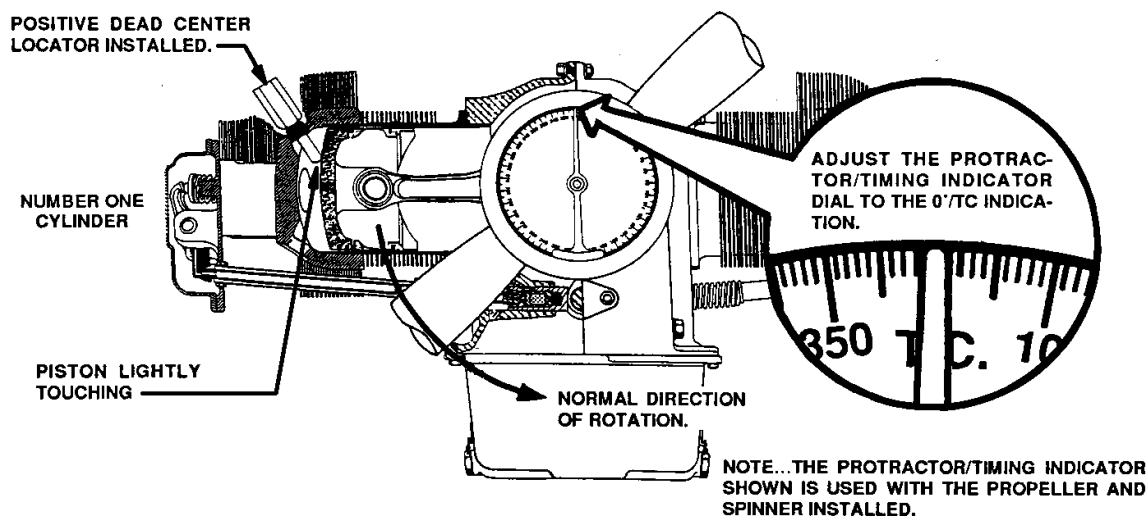

Figure 12-3
7. Rotate disc of timing indicator until the 0 degree mark aligns with the pointer as shown in Figure 12-3.